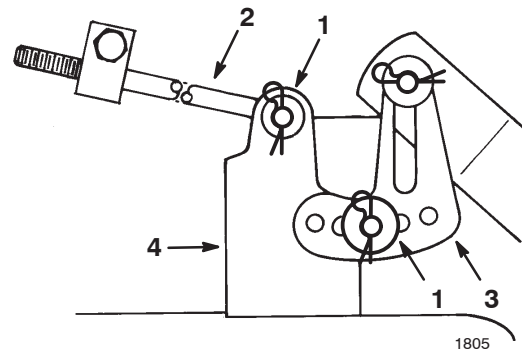

Figure 40
9. Remove the hairpin cotter and washer from the end of the long rod (Fig. 40). Slide the rod out of the mower mount.
10. Remove the hairpin cotter and washer at the mower leveling bracket (Fig. 40). Slide the bracket off of the mounting pin. Install the washer and hairpin cotter for storage.